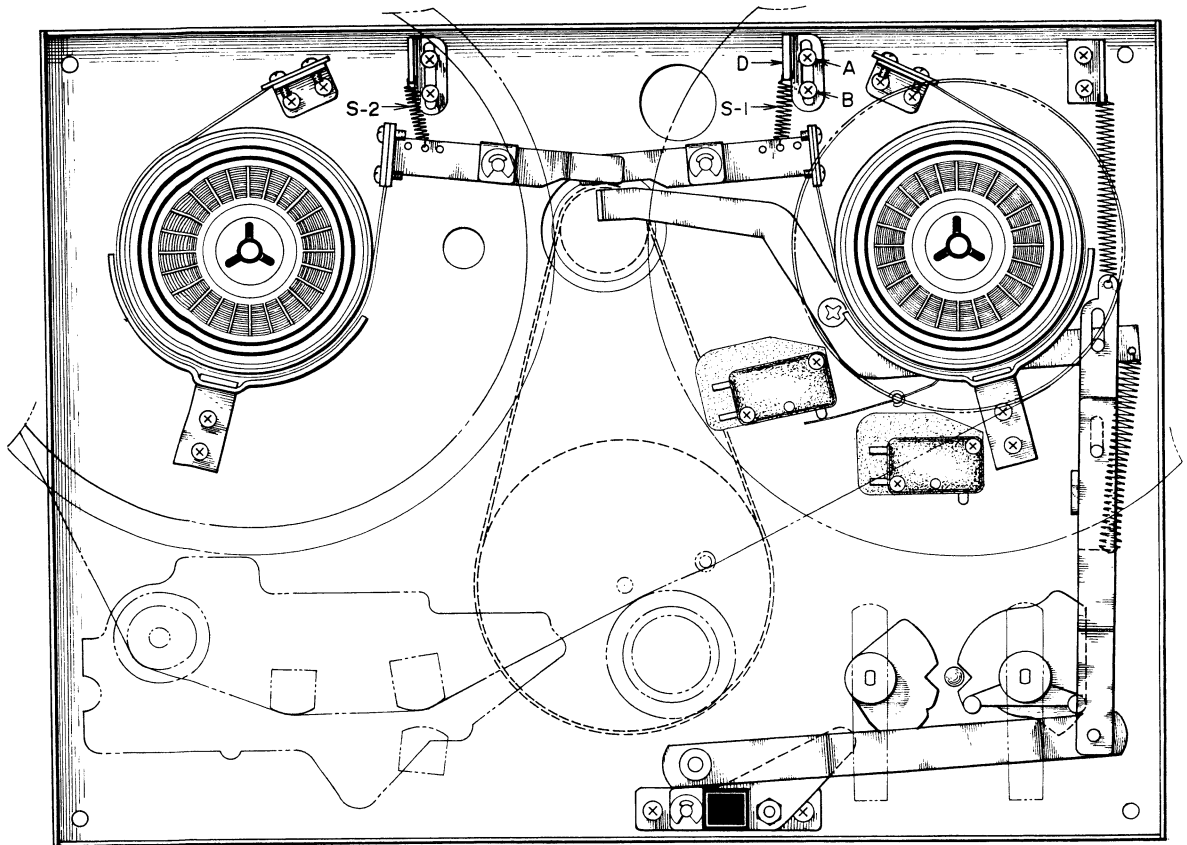

Fig. 6-3
To regulate tension, change the position of the suspended springs (S_1 and S_2 in Fig. 6-3) or loosen screws (A) (B) and regulate position of the spring suspension metal fitting (D).